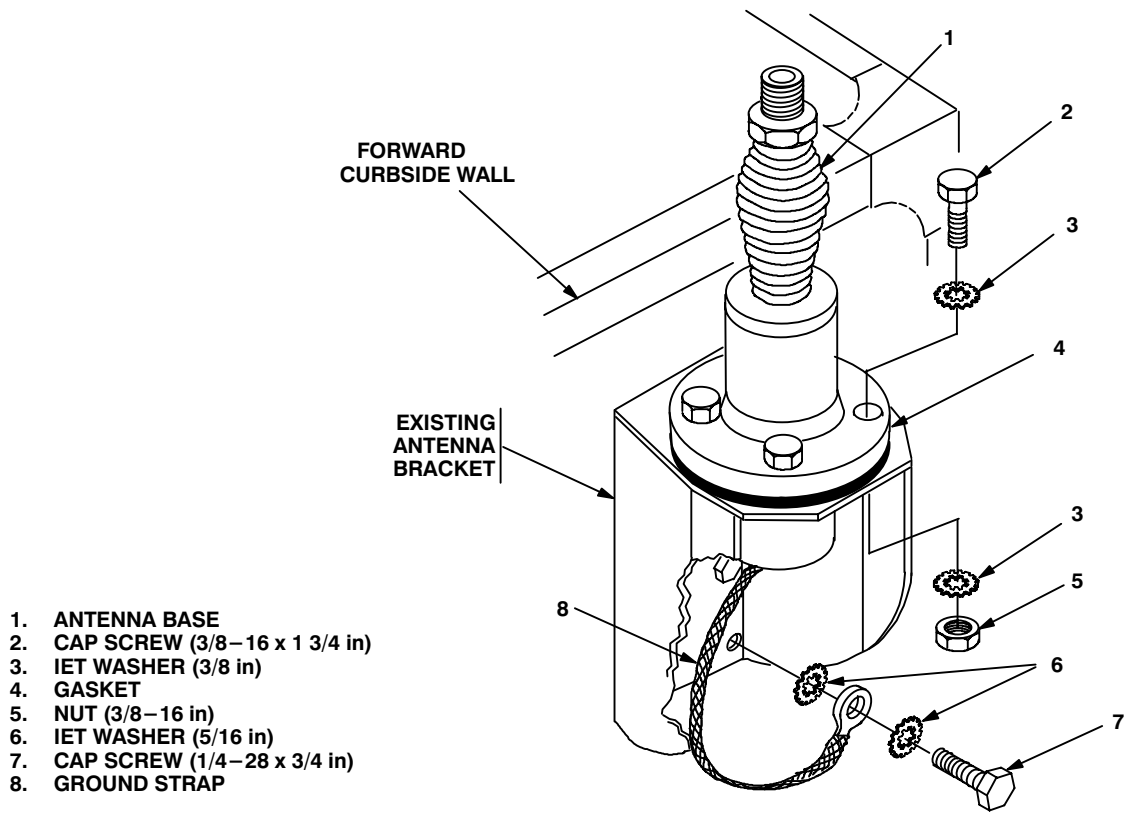

Figure 5-2 (1). Antenna Base Installation: Installing Shelter Antenna Base
| a. Gasket (4). | Place on existing antenna bracket and align mounting holes. See figure 5-2 (1). | |